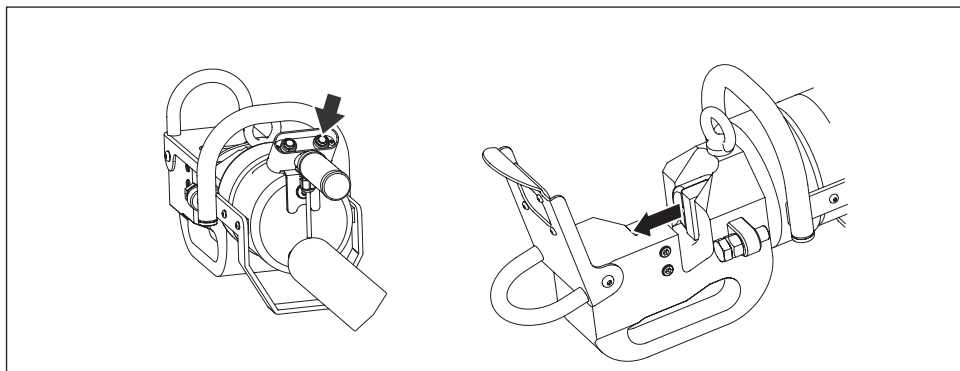

Figure 11, Operation - Advance/Cut
- Press and hold the **advance** push button to advance the piston and slide the moving blade forward. See Figure 11.